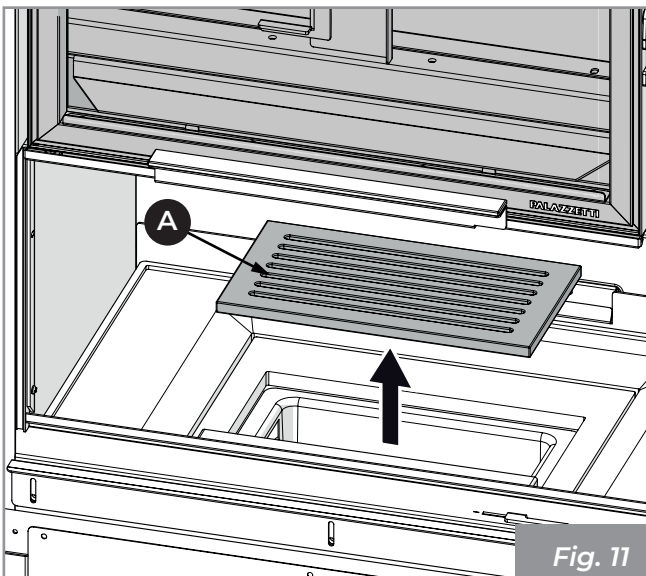

Fig. 11
- 1) Make sure that the grate (A) (Fig. 11) is free from any combustion residues that may obstruct the free passage of air. Remove it and clean the fire box using a hand brush (not supplied) conveying the combustion residues into the ash drawer. Pay attention to any burning embers.